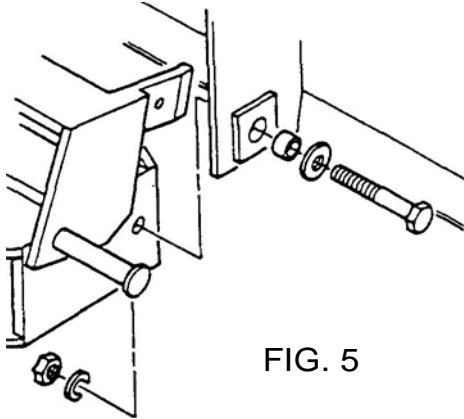

FIG. 5
- (1) Attach the blade to the pivot using (2) 3/4-10 x 4" hex hd. capscrews, bushings, flatwashers, lockwashers and nuts as shown in FIG. 5. Tighten securely.